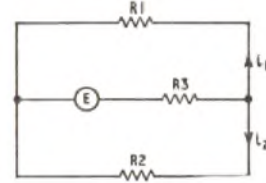

Fig. 3
Q. 6. (a) In Fig. 3 below, the currents  $i_1$  and  $i_2$  are given by the equations